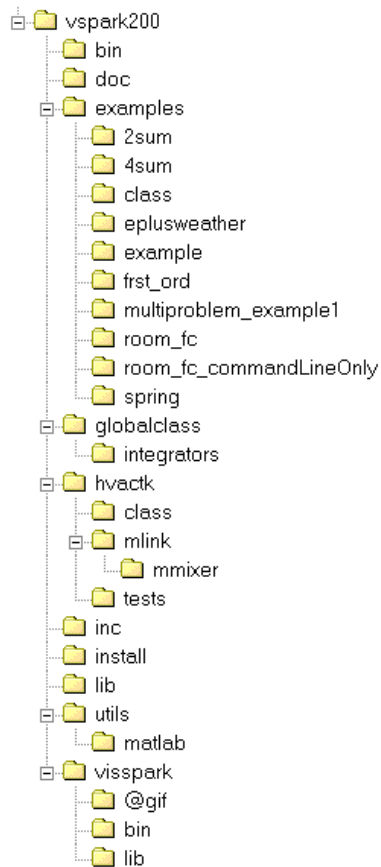

Figure 1: *SPARK* Directory Structure
*SPARK* is composed of many files kept in several directories (see Figure 1). The root directory where *SPARK* is installed is named after the version number, i.e., vspark200/.
Problems that are related are often grouped under a common parent directory, called the projects directory (plural). The projects directory, which can have any name, should also have a class subdirectory to hold any new classes you may create for the various problems under projects. The above mentioned examples subdirectory is an example of a projects directory. As can be seen in Figure 1, there are seven project subdirectories under examples: 2sum, 4sum, example, frst\_ord, room\_fc, room\_fc\_commandLineOnly and spring.